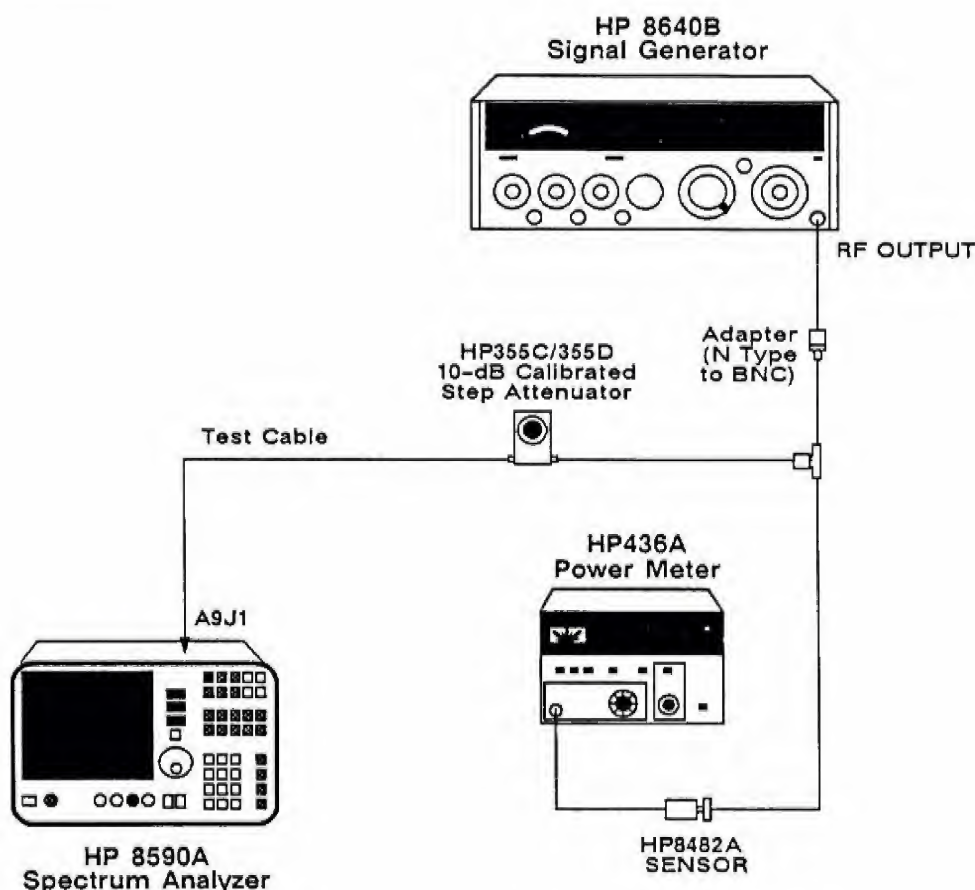

Figure 2-5. Step Amplifier Gain Adjustment Test Setup
- Connect the equipment as shown in Figure 2-5. Set the signal generator to output a 321.3-MHz, -14 dBm, CW signal. Connect the signal generator to one side of a 10-dB step attenuator.